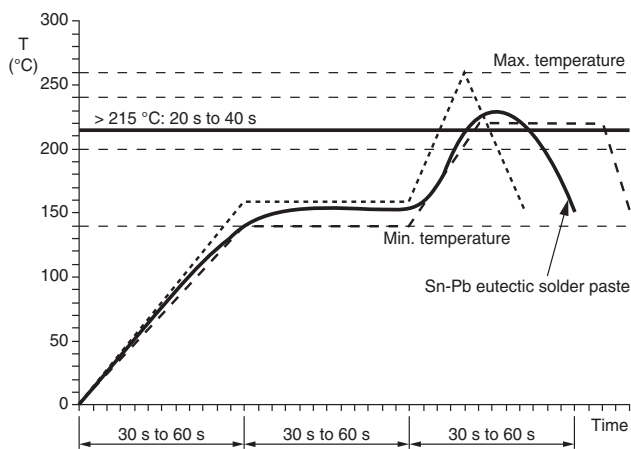

Fig. 8 - Soldering IR Reflow with SnPb Solder
1. Mounting of antennas on a printed circuit board should be done by reflow soldering using the profiles shown (Figures 8, 9, and 10)